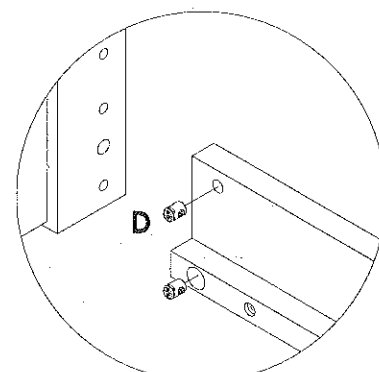

Figure 3
1. Insert **Nuts (B)** into the holes in each **Side Rails** as shown in **Figure 3**.
2. Attach the **Headboards** to the **Side Rails** as shown using **Bolts (C)**, tighten it up by using an **Allen Key (K)**.